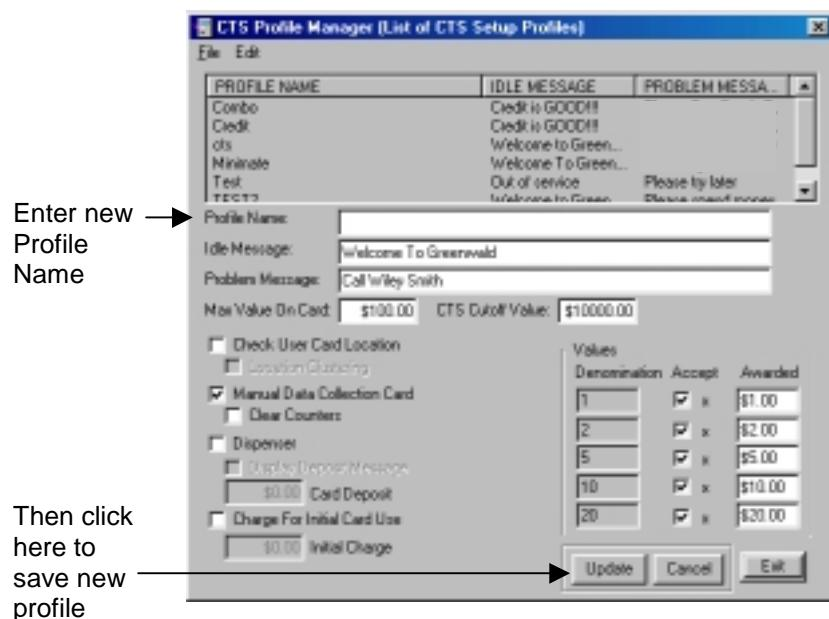

Figure 9.9 Cloning a Cash CTS Profile
4. Enter a new Profile Name (Figure 9.9).
5. Click the Update button to save the new profile record (Figure 9.9).